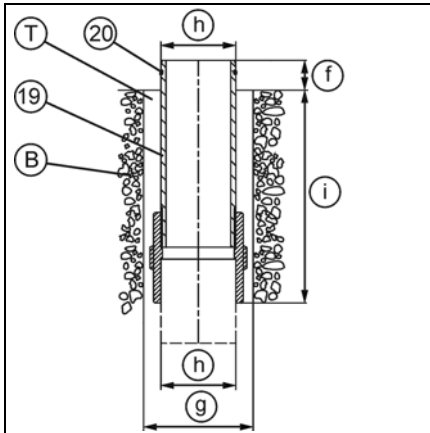
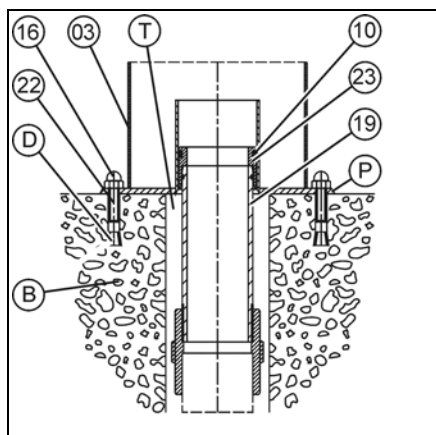

Fig. 10
Fig. 11
See Fig. 10 and Fig. 11.
Remove the protection film C (Fig. 10) from the installation kit (01).
Remove the protection film C (Fig. 10) from the installation kit (02).